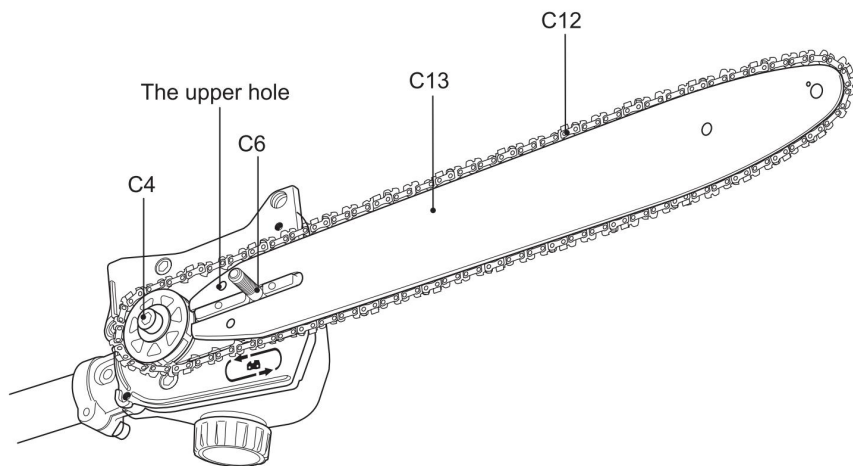

Fig. 10
6) Align saw chain (C12) and the guide bar (C13) assembly with the drive sprocket (C4) and the mounting bolt (C6). Lay the saw chain (C12) around the drive sprocket (C4) and then lower the guide bar (C13) to install it to the mounting bolt (C6). Make sure the tension pin is inserted into the upper hole on the guide bar (C13). (Fig.10)